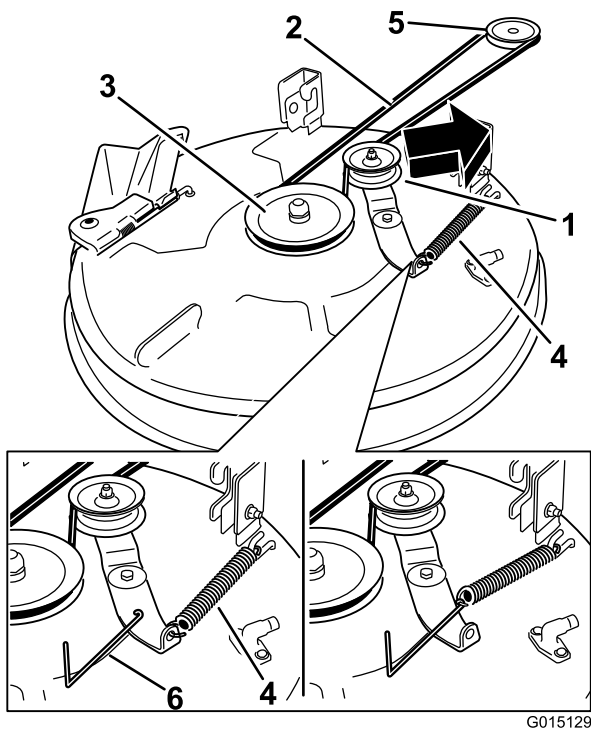

Figure 58
- Using a spring-removal tool (Toro Part No. 92-5771), remove the idler spring from the deck hook to remove tension on the idler pulley, and roll the belt off of the pulleys (Figure 58).
5. Route the new belt around the engine pulley and mower pulleys (Figure 58).
6. Using a spring-removal tool (Toro Part No. 92-5771), install the idler spring over the deck hook and placing tension on the idler pulley and the mower belt (Figure 58).